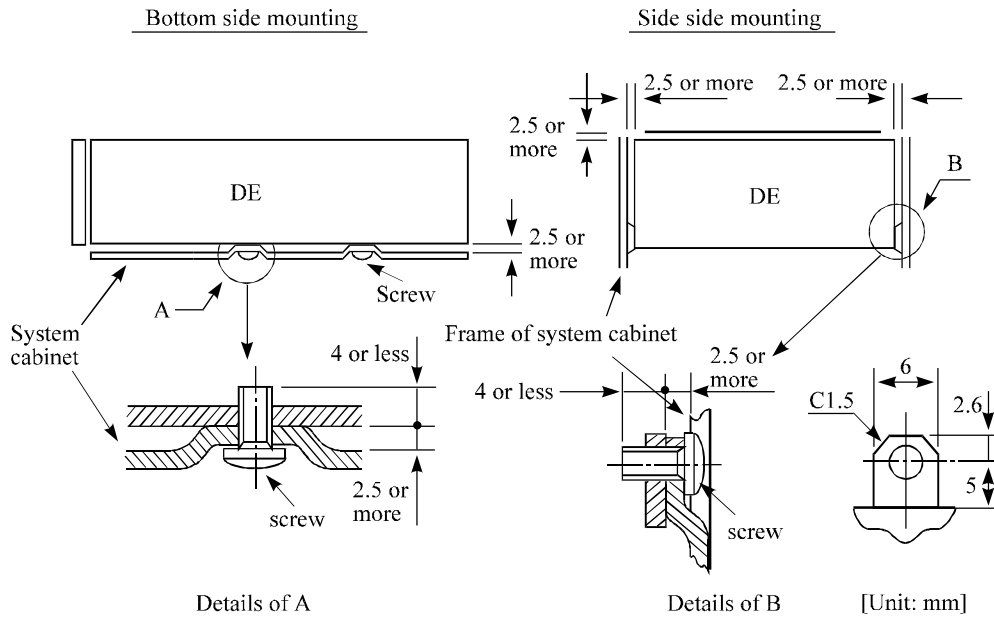

Figure 4.8 Mounting frame structure
- As shown in Figure 4.8, the inward projection of the screw from the IDD frame wall at the corner must be 4 mm or less.